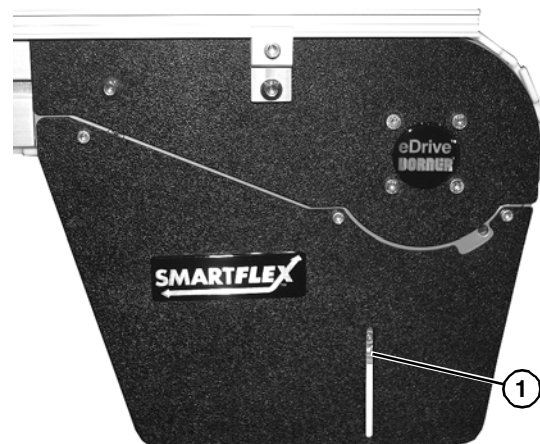

Figure 45
Before inserting belt rod to connect belt ends, be certain that the slack on belt is showing in slotted area (**Figure 45, item 1**) on convey or drive end.